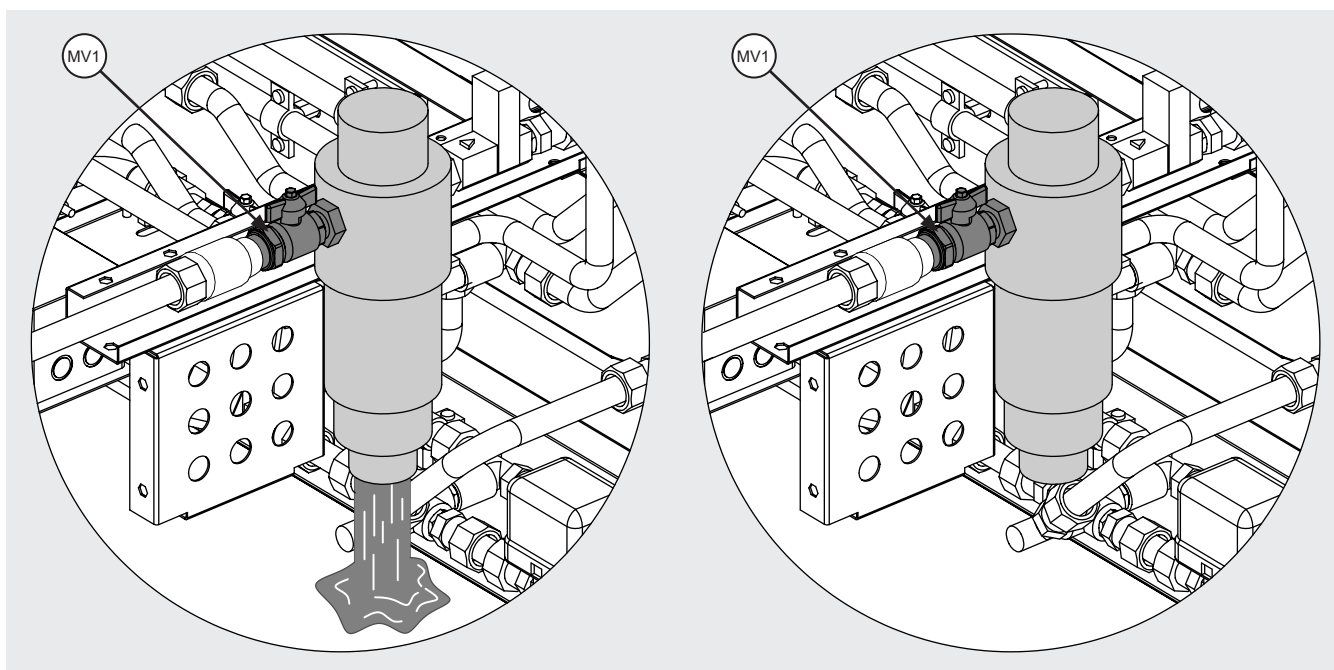

Figure 27
- 12.15.7 Make sure that mains water is available and that the manual valve (MV1) upstream of the filter is open, see Figure 27.
- 12.16.4 Ensure that the model is switched off, as per 12.1 - 12.4, and that the model's adiabatic circuit is isolated: close the inlet valve (MV1), see Figure 27.
- 12.16.11 When finished, open the previously opened valve (MV1), see Figure 27.
- 12.18.10 Clean the inlet water filter as per point 12.15 with the (MV1) valve (see Figure 27) closed. The residue will be discharged from the filter together with the water it contains.